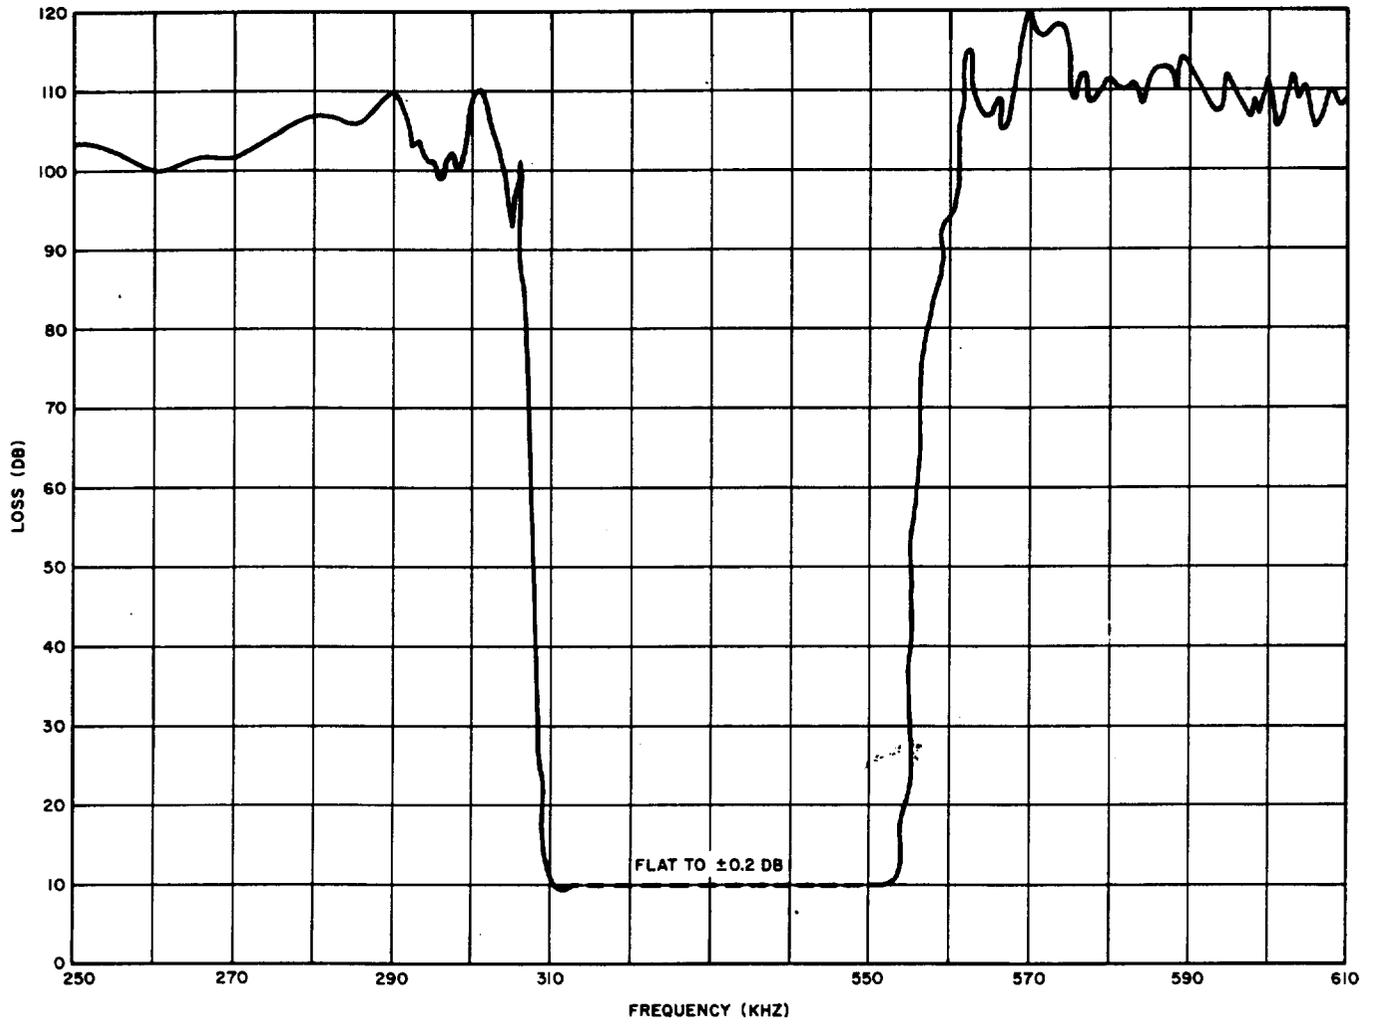

Fig. 3—4250() C3 Supergroup Connector, Typical Loss Characteristic
2.03 The 1106A filter used in the connector passes frequencies between 312 and 552 kHz with a flat loss of approximately 12 dB (the insertion loss is shown in Fig. 3). It also suppresses previous line or terminal pilots, or other energy at 308 and 556 kHz to enable reuse of these frequency slots.